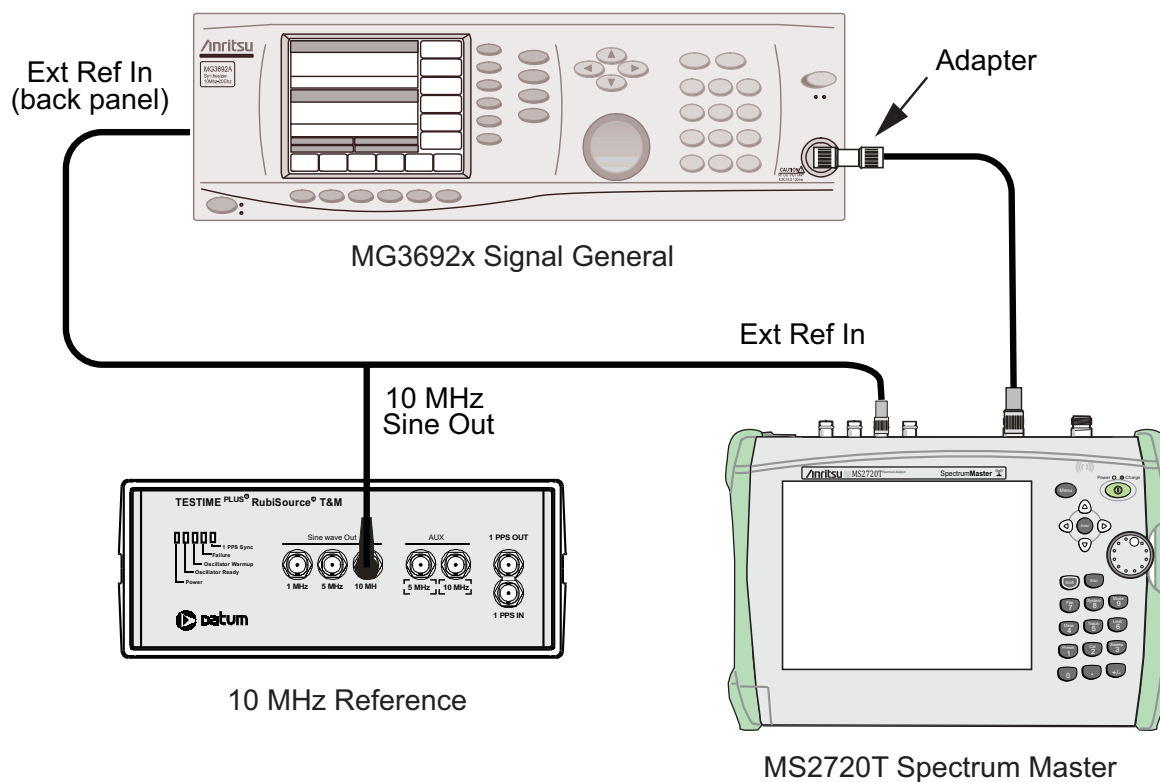

Figure 2-1. Resolution Bandwidth Accuracy Test Setup
1. Connect the external 10 MHz Reference both to the MG3692x or MG3695C Synthesized Signal Generator and to the Spectrum Master MS2720T, as shown in Figure 2-1.
2. Set the MS2720T to Spectrum Analyzer mode and then Preset the instrument. Press the **Shift** key, the **Sweep** (3) key, **Sweep Mode** submenu key and then the **Performance** submenu key.
8. Under the **Measure** menu, press (**Shift** (4), press Power and Bandwidth, press OCC BW and set it to On.